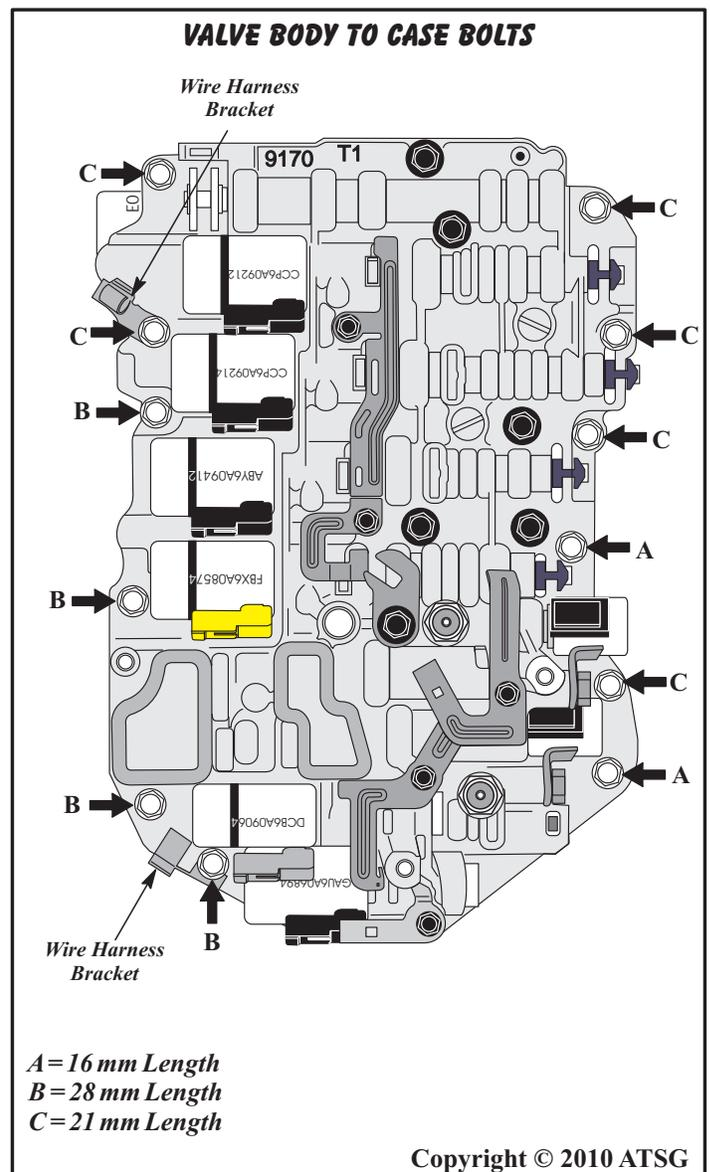

Figure 200
75. Torque all valve body to case retaining bolts to 9 N·m (80 in.lb.) (See Figure 200).